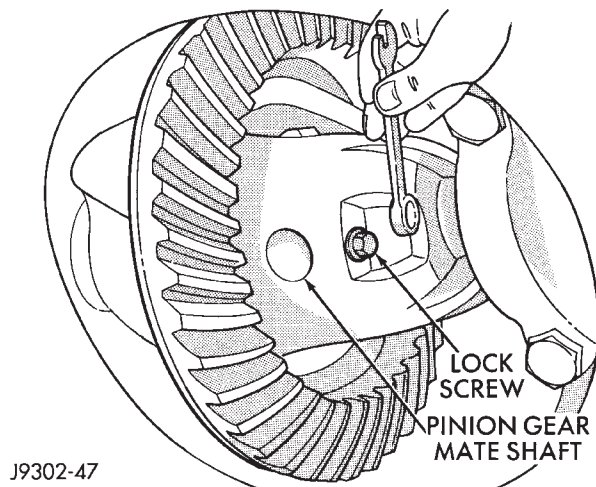

Fig. 43 Mate Shaft Lock Screw
- (4) Remove the pinion gear mate shaft lock screw (Fig. 43).